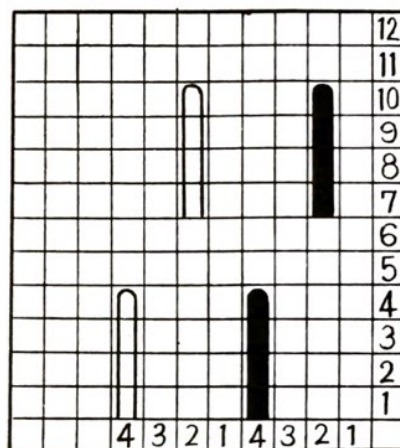

Fig. 29
- Fig. 29** (a) The symbol "⏏" indicates a tuck stitch.
**Pattern Chart** Refer to Fig. 29